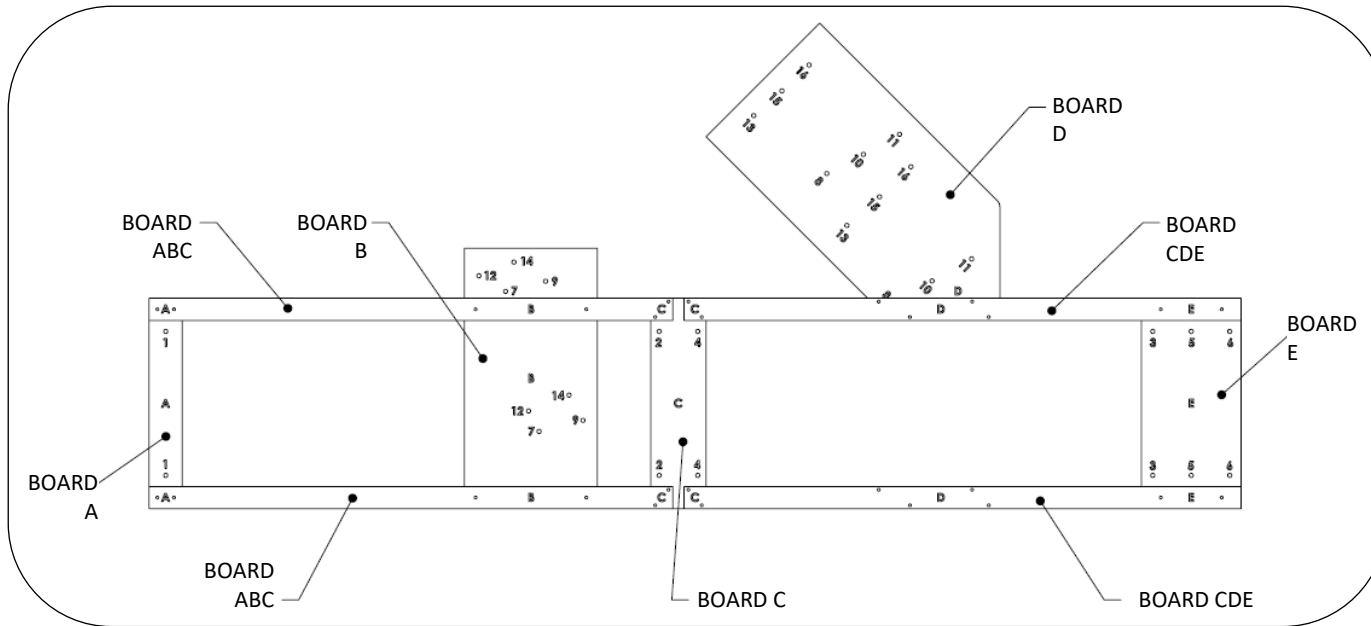

Fig. 2
3. Align holes in all boards and insert 24 dowels as shown in Fig. 2.